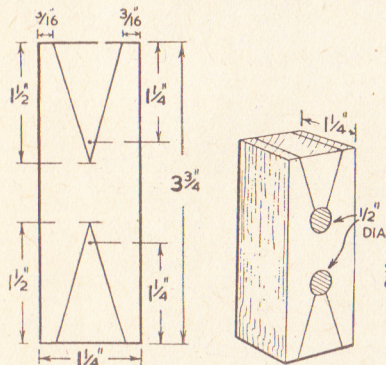

Fig. 1—Marking out, and cutting the clown block
The toy is by no means difficult to make, nor will it take long to construct. Fig. 1 shows three stages in making the clown block. A piece of wood of $1\frac{1}{4}$ ins. section and $3\frac{3}{4}$ ins. long is
marked out, as in Fig. 1 (A). Holes, $\frac{1}{2}$ in. diameter, are then bored through, as seen in (B) Fig. 1, and finally the block is gripped in the vice and the wedge-shaped pieces cut out with a tenon saw. It is most important to get these openings quite smooth. Bored holes may be rough, so it will be necessary to get busy with the glasspaper.